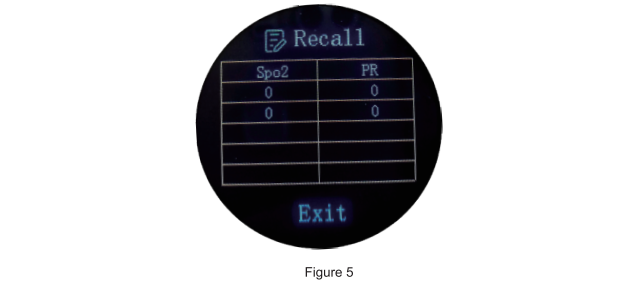

Figure 5
- On the main menu interface, the cursor is displayed at "Recall", long press the measurement button to enter the "Recall" interface. Long press the measurement button to exit the "Recall" and enter the main menu interface. As shown in figure 5.